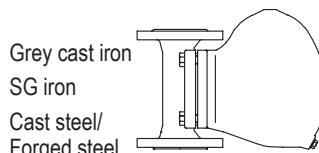

Fig. 631
- with flanges (Fig. 631....1)
- with screwed sockets (Fig. 631....2)
- with socket weld ends (Fig. 631....3)
- with butt weld ends (Fig. 631....4)